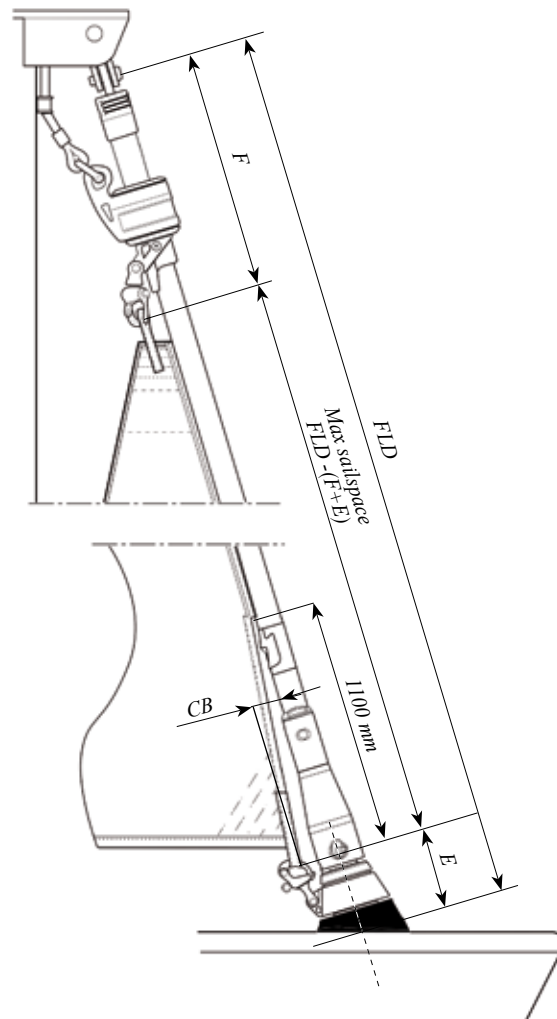

Fig. 7.1.b
- ☐ To fit the Furlex system, an existing sail may need a number of modifications. The maximum luff length is calculated as shown in Table 7.1.1 and fig. 7.1.b. FLD -(F+E) (existing forestay length FLD as per Table 3.6.1 – less head and tack deduction).